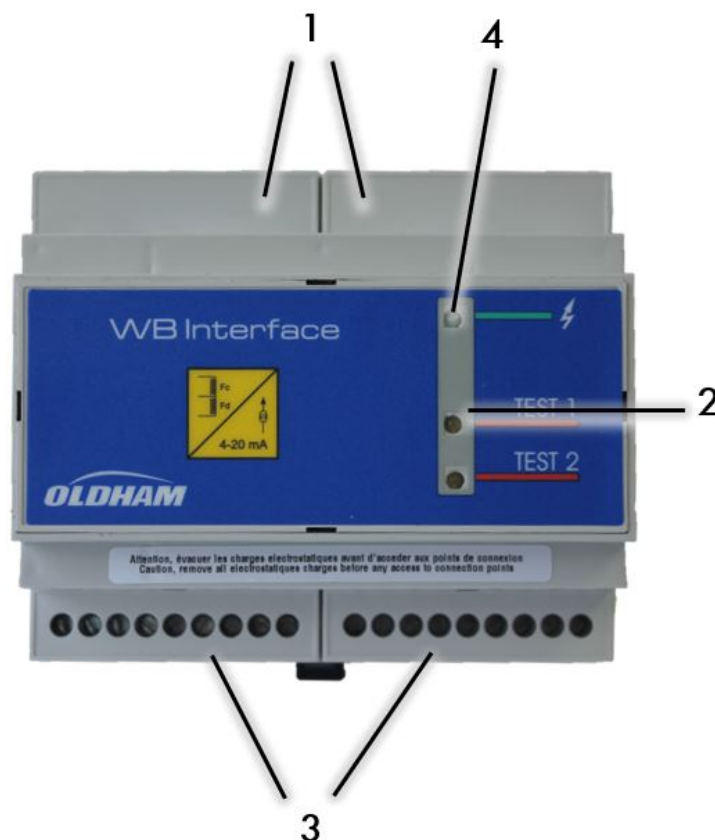

Figure 1
- at the top for the settings and tests (Figure 1/Ref.1),
- on the FRONT panel for the indicator lights (Figure 1/Ref.2),
- at the bottom for the connections (Figure 1/Ref.3).
As soon as the WB interface is powered up, it is ready for use and the GREEN light-emitting diode is lit (Figure 1, Ref. 4)